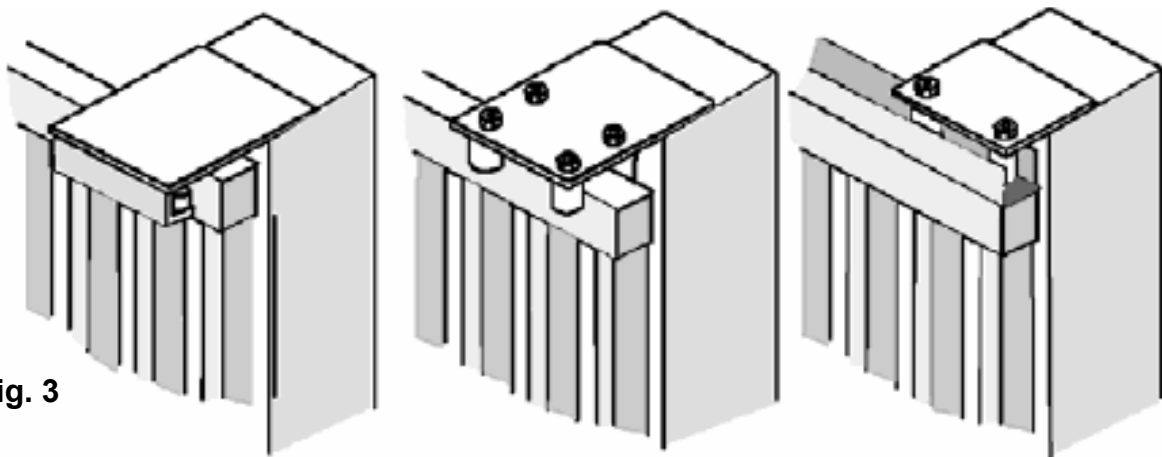

Fig. 3
- Also check that the runner on the ground (**Fig. 1**) is not deformed, is perfectly level and that the mechanical stop is present on opening (**Fig. 2**) in order to **prevent** the gate from going beyond the upper runners (**Fig. 3**)
- Check the upper runner (**see Fig. 3**) is firm and the gate slides freely.